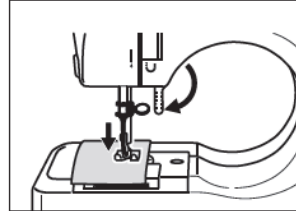

Fig.8
3. Lower the presser foot (Fig.8).